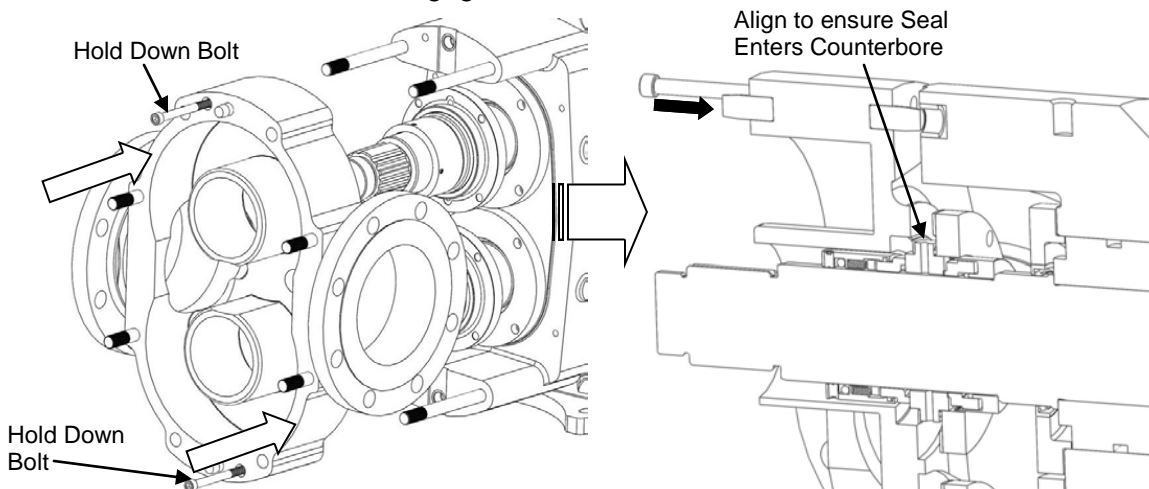

Figure 65: ZP1 320 Installing Pump Body
1) Make sure all seal components are installed by following “Seal Maintenance” instructions provided on pages 21-23. Ensure all dowels are in place and that all parts including body, rotors and jam nuts are clean and free of foreign matter. Slowly slide the body over the gear case studs and shafts, ensuring the stationary seals enter the counterbores on the body without damage (Figure 65). Install the two hold down bolts and tighten the body against the gear case to ensure the dowels are engaged.